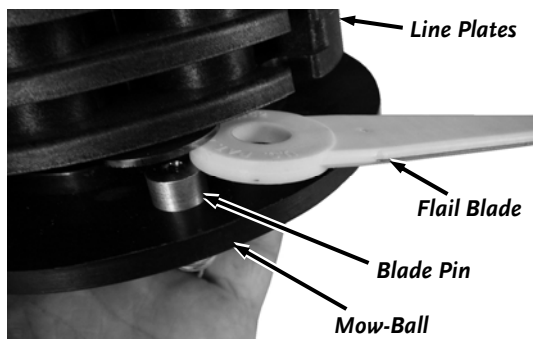

Figure 7
3. Remove the used Blades and install new Blades onto the Pins (**Figure 7**).